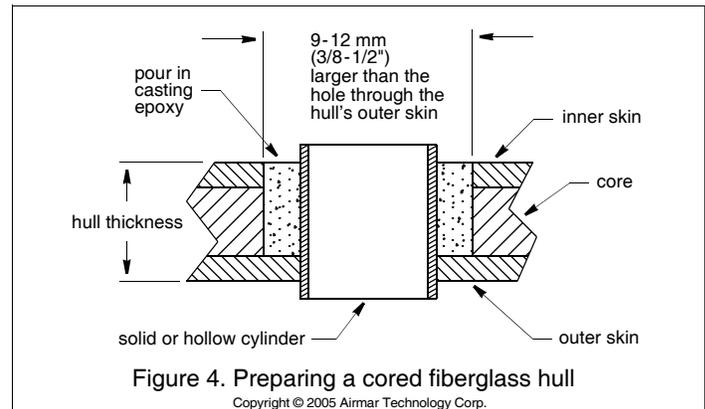

Figure 4. Preparing a cored fiberglass hull
2. Using the 51 mm or 2" hole saw, cut the hole from outside the hull through the *outer* skin only (see Figure 4).